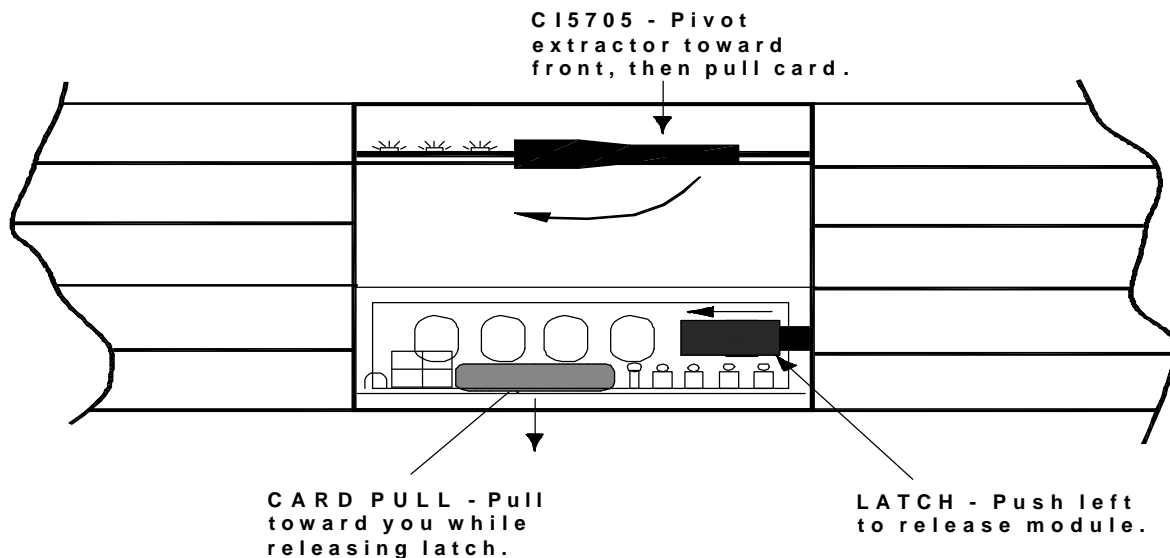

Figure 6. Removing the Power Supply Module
- To remove the Power Supply module, grasp the card pull tab while pushing the latch to the left and pull the card straight out of its slot. (See Figure 6.)
**Caution:** (1) To prevent damage to the Power Supply module latch, be sure to press the latch open (to the left) when removing the module.
**Caution:** (2) Heat sinks and other components may be hot. To prevent burns, avoid touching components.
- To remove the Communication Interface module, grasp the extractor, pivot toward the front and pull the card straight out of its slot. (See Figure 6.)